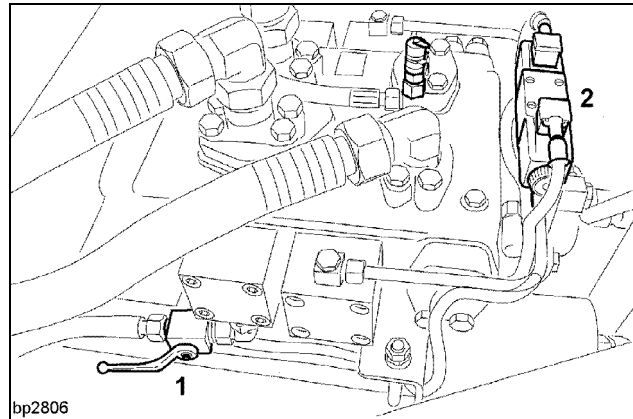

Fig. 1
- Close the ball valve 1 (Fig. 1) on the concrete pump control block.
- Close shut-off valve 7 and switch ball valve 1 (Fig. 1) into the operating position.